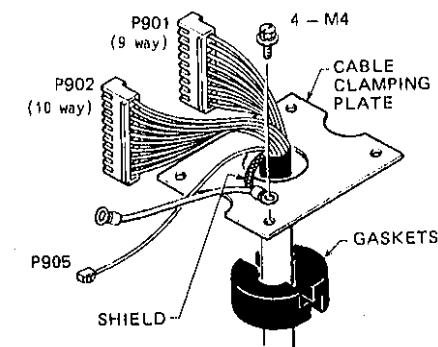

Fig.8 Cable Grounding Method
9. Remove the cable clamping plate by loosening four M4 bolts and gaskets at the center of the radome base. See Figs.8 & 9.
11. Put the gaskets in position as shown in Fig.8. If the gaskets are incorrectly installed, water may come into the radome.
12. Secure the cable with the cable clamping plate. At this time, ground the shield of the cable by using one of the fixing bolts for the cable clamping plate. See Figs.8 and 9.